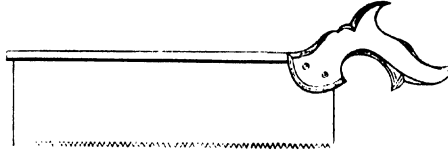

Fig. 37.
**Tenon Saw**—This saw is shown in Fig. 37. Notice that the teeth of the saw are not in the same line. They are bent alternately in opposite